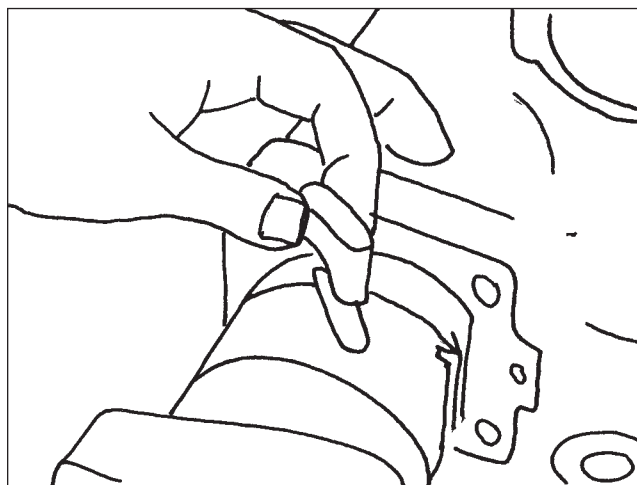

Figure 127
8. Install a new O-ring on the ball guide retainer and coat it with a small amount of grease. Insert the retainer over the ball return guide and into the ball guide cavity (Figure 127).